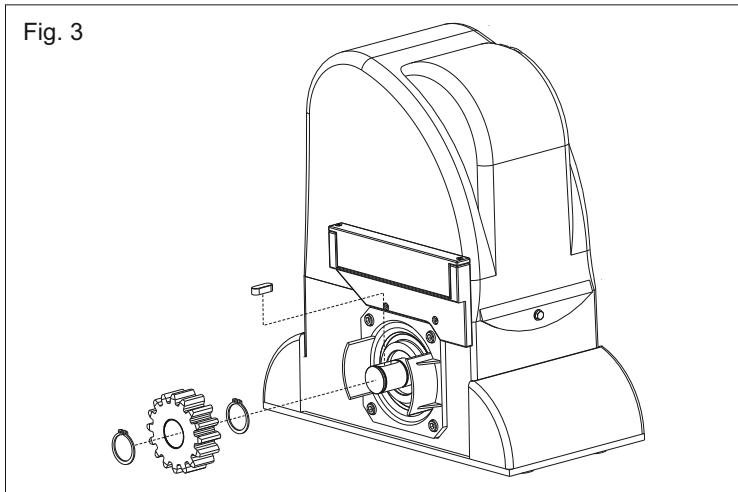

Fig. 3
**3.1.** Put the spline into the motor reducer shaft as in Fig. 3.
**3.2.** Mount the pinion on the motor as shown in fig.3